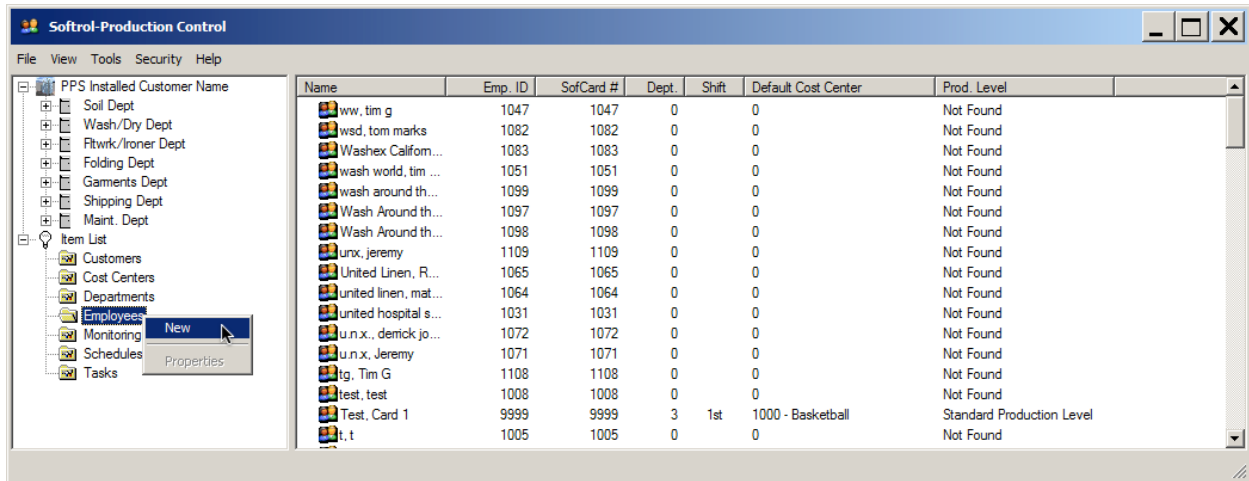

Figure 39. Setup: New Employee.
2. Right-click and select **New** (see Figure 39) or double-click an existing employee if you would like to change the employee's shift. This opens the *Employee Details* dialog.